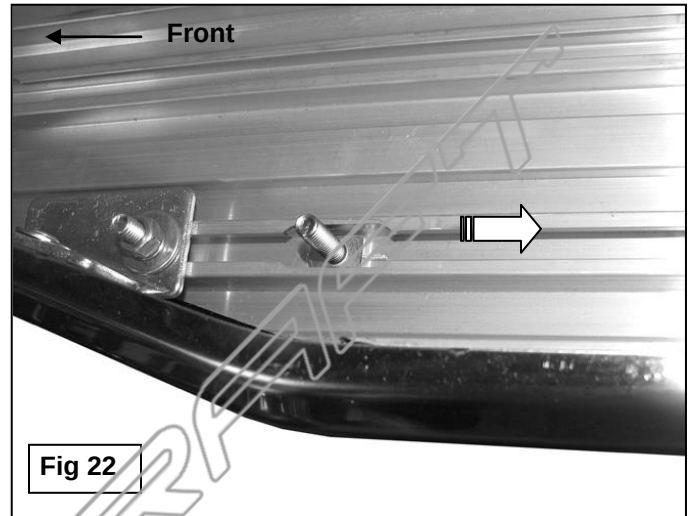

Fig 22
18. Carefully unwrap the passenger side Running Board. Remove and discard the foam holding the T-Bolts in place. Slide the (3) T-Bolts forward or back to line up with the slots in the front, center and rear Mounting Brackets, **(Figure 22)**.